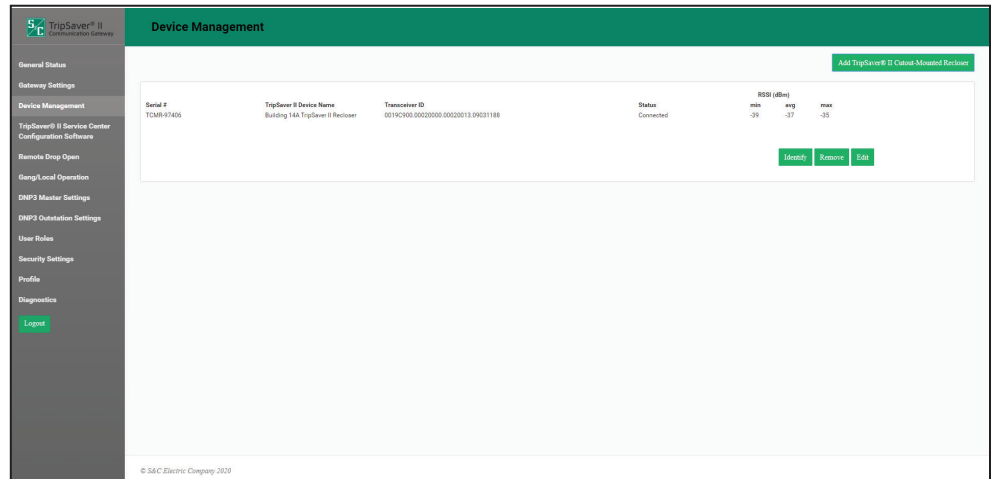

Figure 11. The *Device Management* screen after pairing a TripSaver II recloser.
STEP 7. Click on the **OK** button. It will take between one and 5 minutes for the communications gateway to connect to the TripSaver II recloser. The recloser will appear in the *Device Management* screen after the screen is refreshed using the browser’s **Refresh** button. See Figure 11.